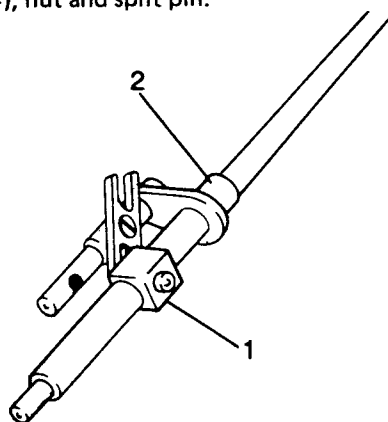

Fig H1.106
- (5) Refer to Fig H1.106. Refit the retaining block (1) on the high and low selector shaft, in such a way that the nut and split pin are on the same side of the shaft as the coupling grooves.
- (6) Position the pivot assembly (2) on the high and low selector shaft.
- (7) Couple up one side of the rocker to the special bolt that fixes the retaining block.